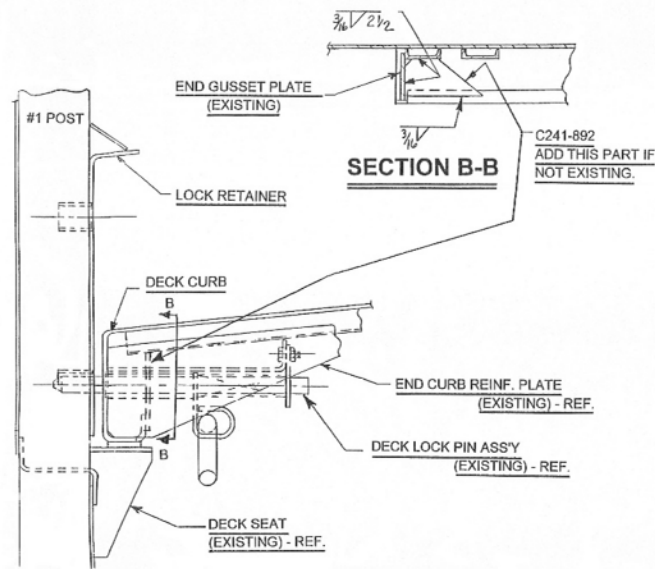

Figure 19. Applying Gusset Plate
1. Apply a gusset as shown in Figure 19.